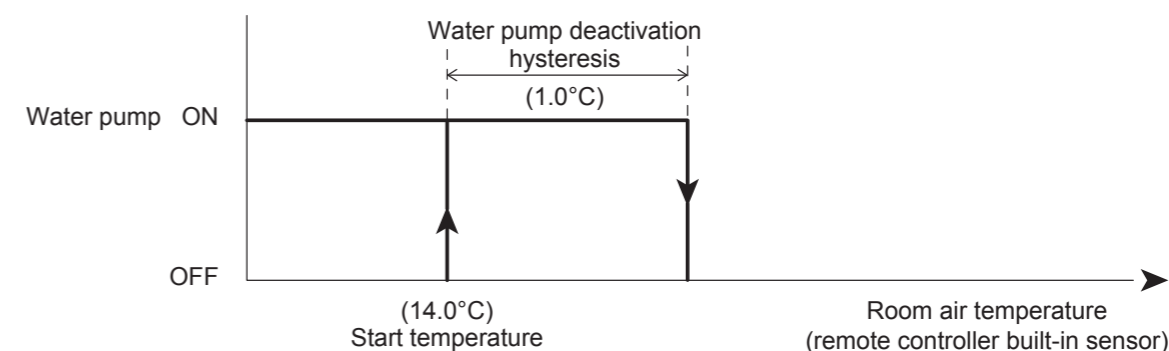

Figure 8-18: Frost protection (room air temperature) - water pump
- Room air temperature - refer to Section 8.4.3 and Figure 8-18.